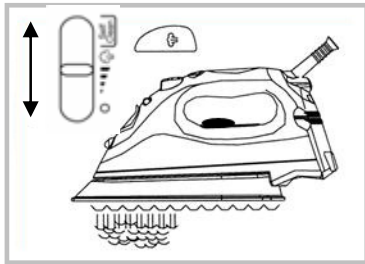

Fig. 2
- Turn the temperature dial to any of the temperatures within the steam band and allow the iron to heat for approximately two (2) minutes before ironing. Place iron on its heel (on a stable, protected surface) while the iron is warming to desired temperature.
- Turn the variable steam control lever to the right to increase the amount of steam. When using extra steam, the iron uses more water and it may be necessary to fill the water tank more often. (Fig. 2)